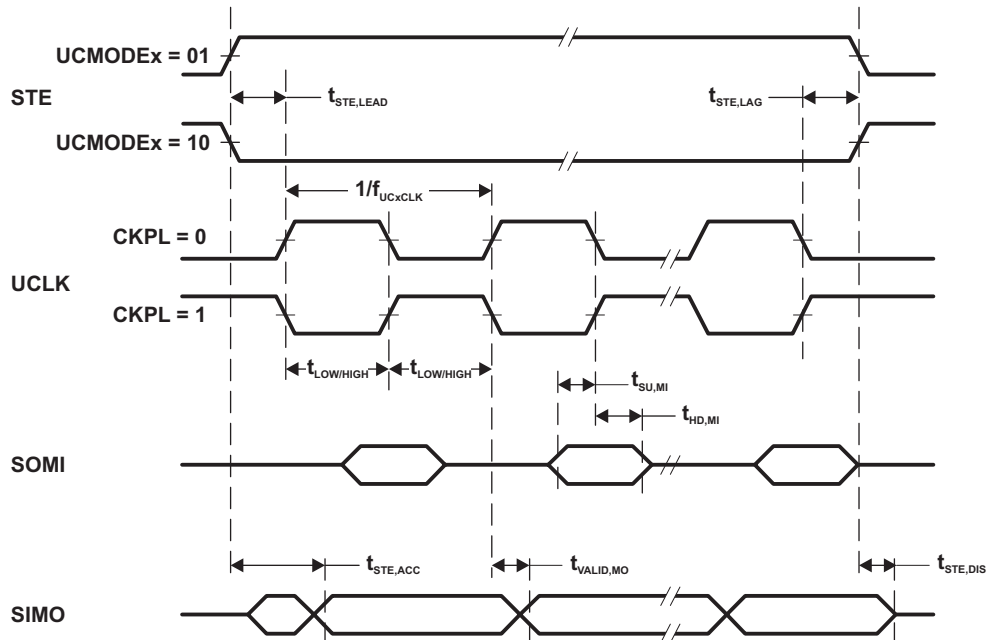
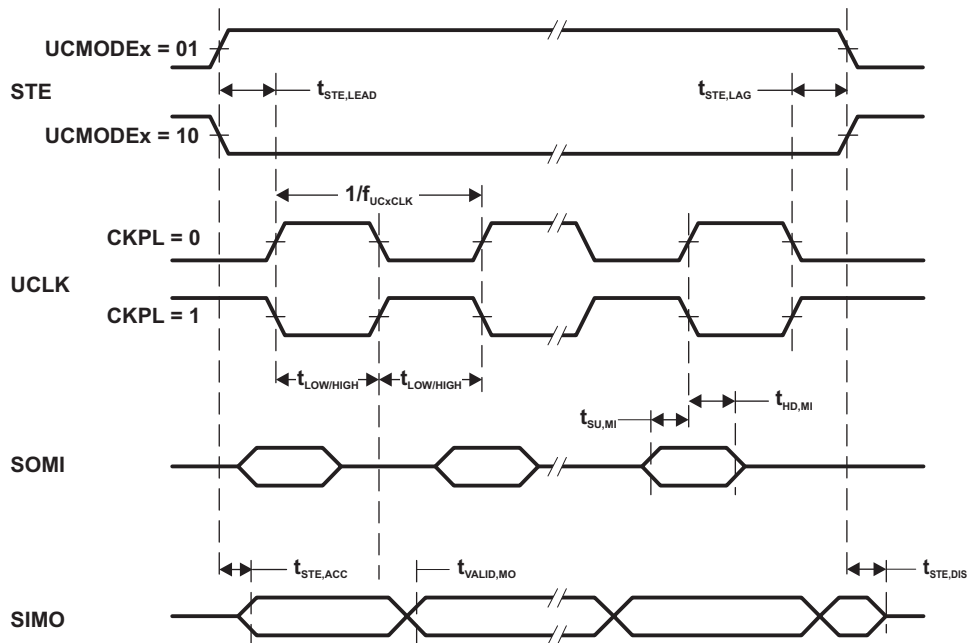

Figure 6. SPI Master Mode, CKPH = 0
Figure 7. SPI Master Mode, CKPH = 1
- (1)  $f_{UCxCLK} = 1/2t_{LO/HI}$  with  $t_{LO/HI} = \max(t_{VALID,MO}(eUSCI) + t_{SU,SI}(Slave), t_{SU,MI}(eUSCI) + t_{VALID,SO}(Slave))$ . For the slave's parameters  $t_{SU,SI}(Slave)$  and  $t_{VALID,SO}(Slave)$  see the SPI parameters of the attached slave.
- (2) Specifies the time to drive the next valid data to the SIMO output after the output changing UCLK clock edge. See the timing diagrams in Figure 6 and Figure 7.
- (3) Specifies how long data on the SIMO output is valid after the output changing UCLK clock edge. Negative values indicate that the data on the SIMO output can become invalid before the output changing clock edge observed on UCLK. See the timing diagrams in Figure 6 and Figure 7.